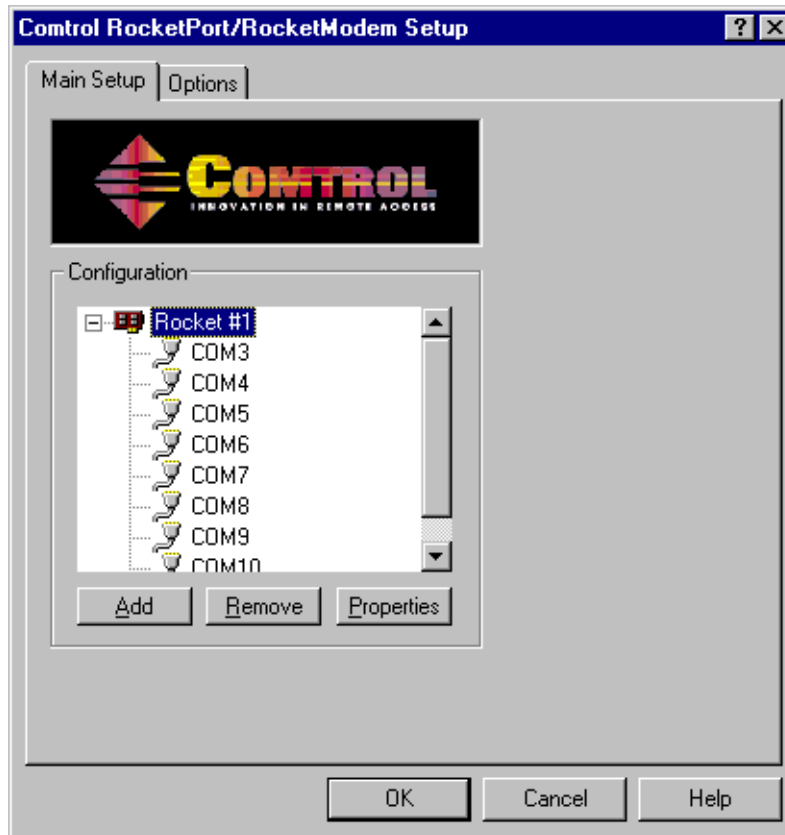

Figure 8. Choose the Options tab.
13. Choose the Options tab in the Control RocketPort/RocketModem Setup dialog box (see Figure 8).